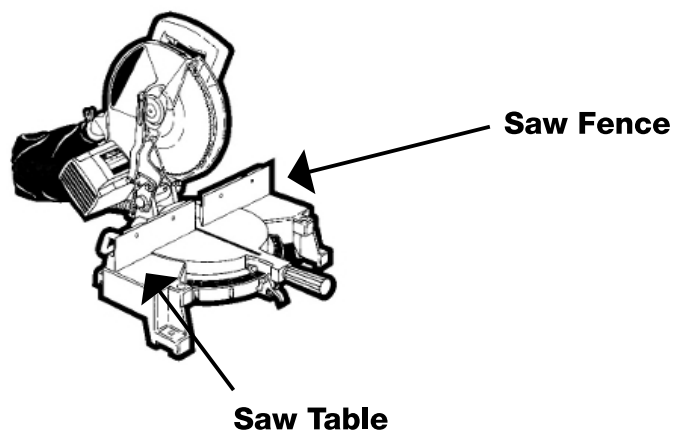

Fig 5.
2. Set your saw angle to 45 degrees to the left. Hold the bottom of the crown against the saw fence [Fig 5.].